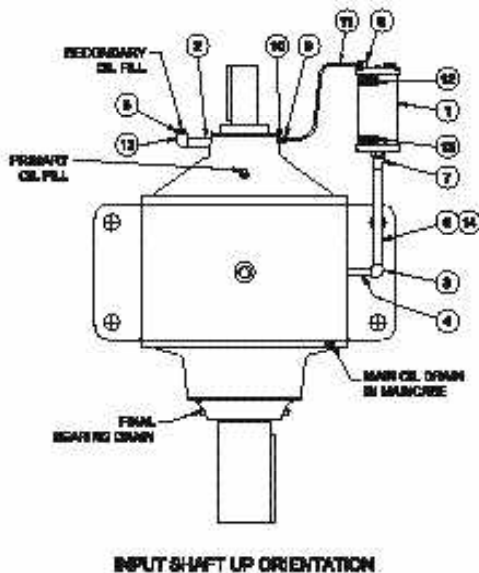

Figure 7.1a Vertical Service Shaft Orientations
Assemble components as shown in **Figure 7.1a** and **Table 7.1b**. It is difficult to determine all potential field installation interference points. If necessary please substitute different pipe fittings as required. In doing so, **it is important that the bottom of the reservoir is at or above the uppermost bearing.** Holes have been drilled by the factory to facilitate both right hand or left hand oil reservoir mounting. Apply pipe sealant to all threaded connections during assembly.
1. Begin by filling the reducer thru the primary oil fill until full; reference **Figure 7.1a**.
1. Begin by draining oil from main oil drain in maincase; reference **Figure 7.1a**.